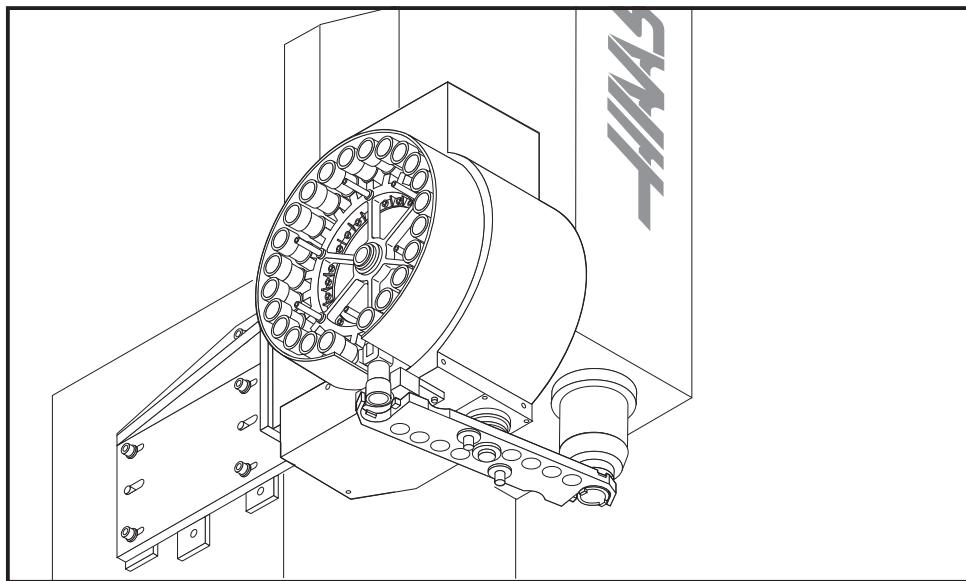

Figure 3-67 Double Arm Alignment
3. Push the ARROW DOWN button, to activate the tool pocket down (insure proper tool pocket operation). Refer to figure 3-67.